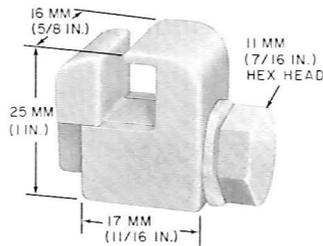

Fig. 7—B Connector
2.10 The B connector (Fig. 7) is intended to provide a solderless ground connection on plain bonding ribbon. This bronze vise-type connector is tin-coated to resist corrosion and can be tightened over the bonding ribbon with an AT-7511B ratchet wrench or equivalent.